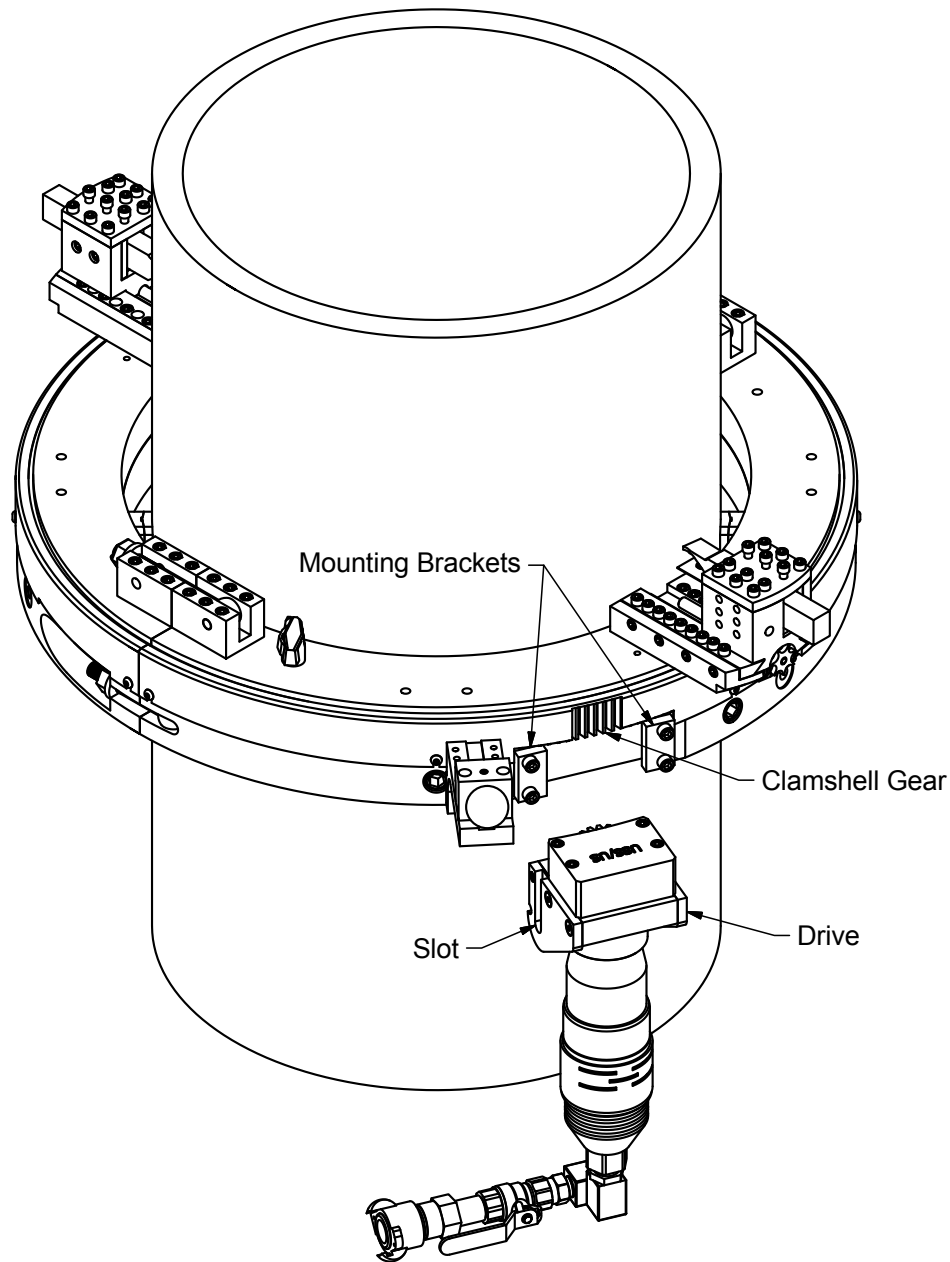

Figure 2-13 – Install Drive Motor
- 16.** Install the drive motor assembly onto the clamshell. Slide the drive slot over the mounting brackets on the clamshell. Tighten the mounting bracket fasteners to secure the drive. Mesh the drive gear with the clamshell gear. Push the drive assembly up until it stops. Secure the drive to the clamshell by tightening four mounting bracket screws. See Figure 2-13.